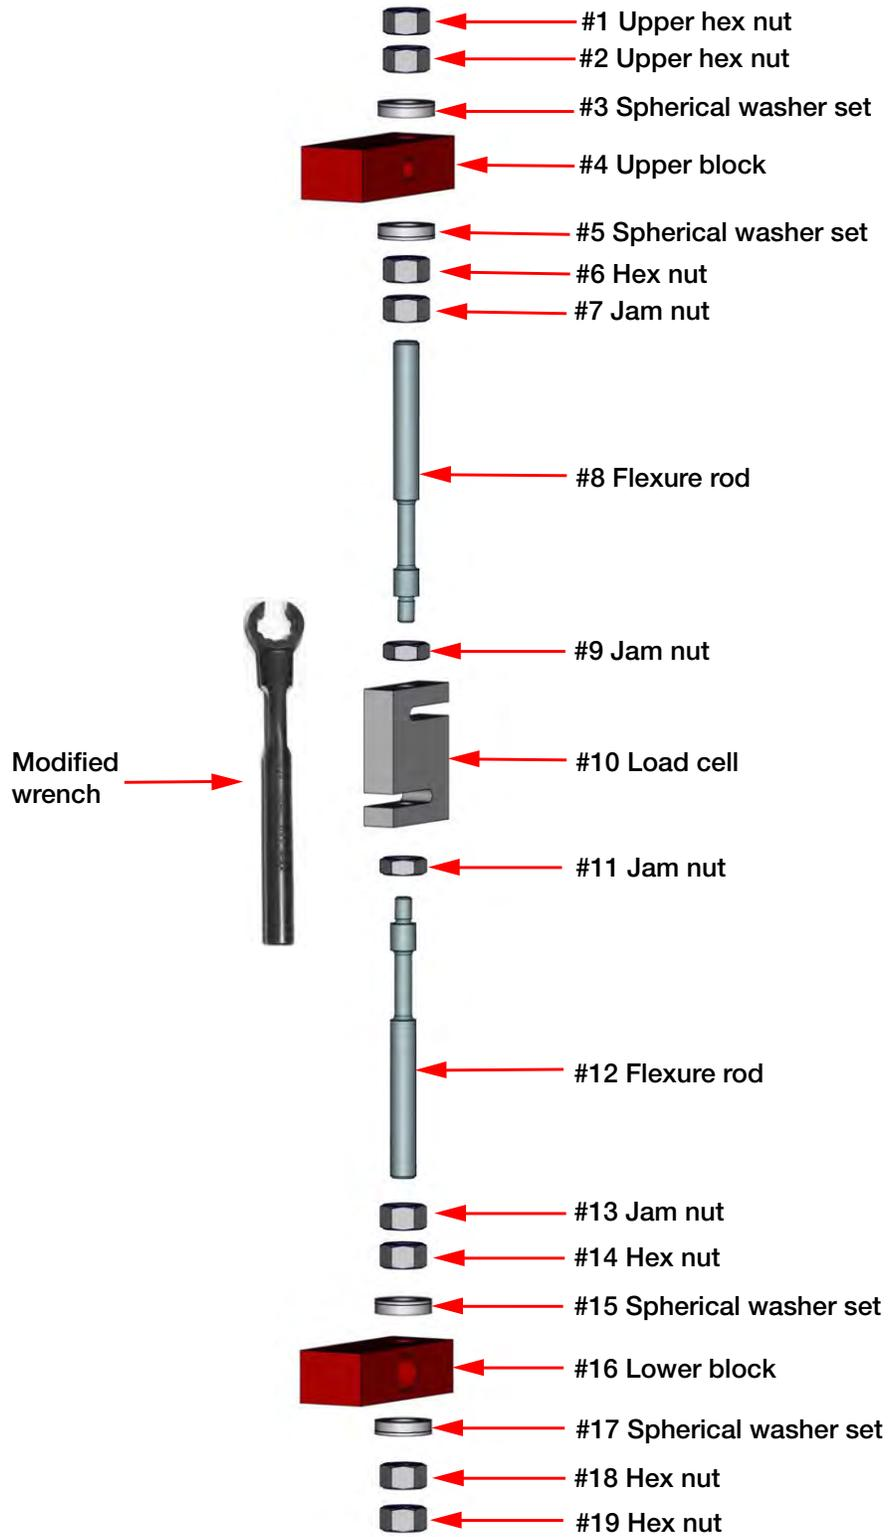

Figure 4-25. CLS-M Load Cell Assembly Parts Breakout
5. Loosen jam nut (#7) from the upper block using the special modified box wrench (PN 96196 - supplied with load cell replacement kit) and shown in Figure 4-25.
21. Insert the load cell and thread flexure rods into top and bottom of the load cell making sure the appropriate hex nuts, jam nuts, and spherical washers are in the correct order per Figure 4-25 on page 72.